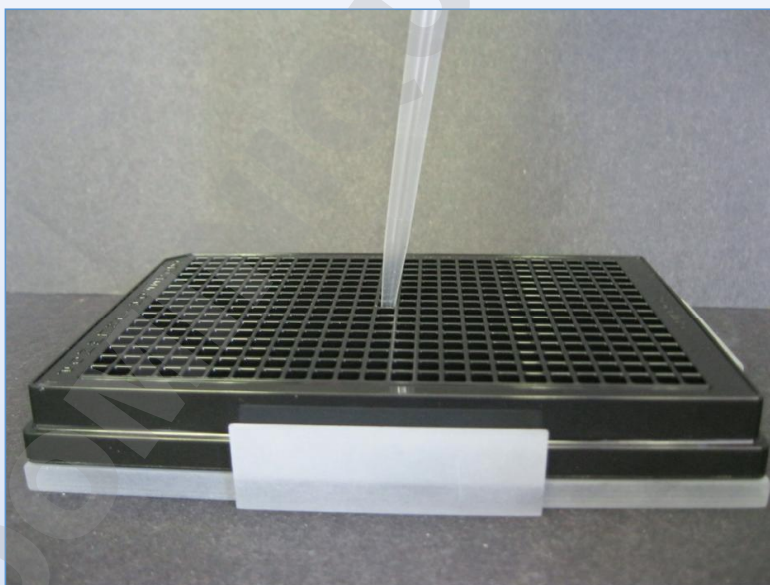

Figure 3: Use the holding drive to hold 3D cultures as you add and remove liquids
- After printing, remove the plate off the drive and transfer it back to the incubator for the length of the experiment. The spheroids can be cultured up to 3 weeks. If necessary, replace the media in the wells after 2-3 days of culture. Use the holding drive to hold the spheroids down while aspirating solutions to prevent unwanted cell loss (Figure 3).
After culturing, standard tissue processing techniques can be performed, such as fixation, paraffin embedding for immunohistochemistry, or RNA isolation for qRT-PCR. Use the holding drive to hold cells down while adding and removing liquids (Figure 3).